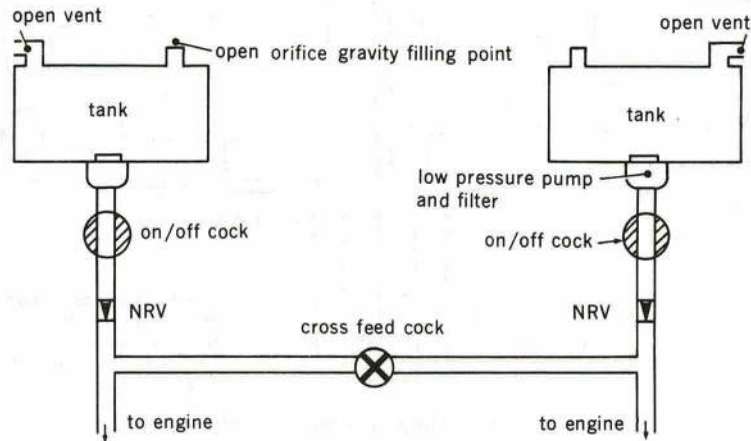

Fig 6.1.2. Pump feed fuel system
10. **Pump feed fuel systems.** In a multi-tank open orifice fuel system, where the tanks are well below the level of the engine, low pressure fuel pumps are used to feed the fuel to the engine where an engine driven pump (EDP) increases the fuel pressure to the correct value for supplying the engine. In the simple two tank system shown in Fig 6.1.2, each tank has a low pressure fuel pump which is operated by electricity. In the supply line from each tank is a non-return valve (NRV) that is fitted to prevent fuel from one tank feeding into the other and, although in twin engined aircraft, each tank normally feeds the engine on the same side of the aircraft, a 'cross feed' line is fitted between the two fuel supply lines to make all the fuel available for either engine.